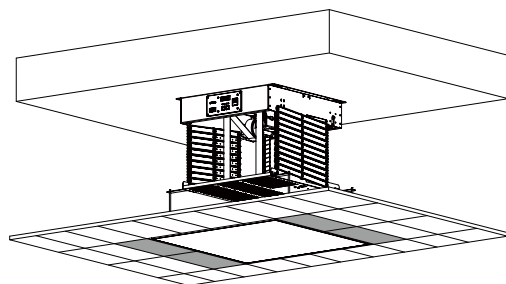

Figure 20
- 14.(Figure 20)Trim the ceiling plate to the appropriate size and assemble it back into the ceiling grid. The suggested distance of ceiling plate to the lift's decorative ceiling plate is about 5mm. Please use the same way to adjust the ceiling plate in case the height of decorative plate is not the same as the ceiling plate around.